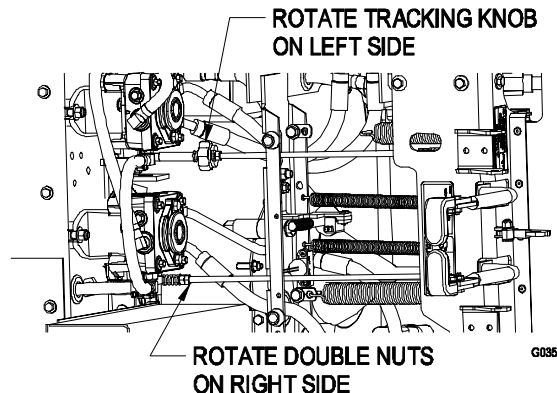

FIGURE 16
- g) Adjust the right pump linkage by using a wrench to turn the double nuts on the assembly. See Figure 16.